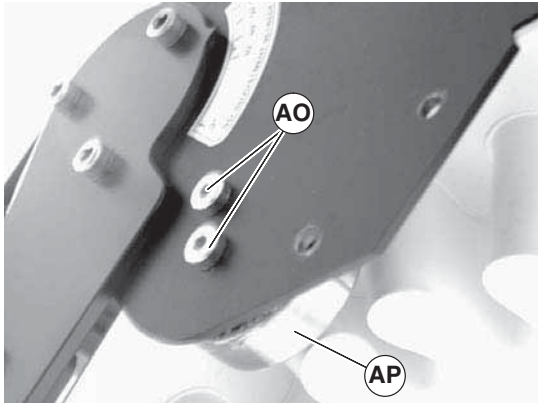

Figure 85
1. Turn bearing (Figure 85, item CN) to align with slots (CO) in bearing housing. Then remove bearing.